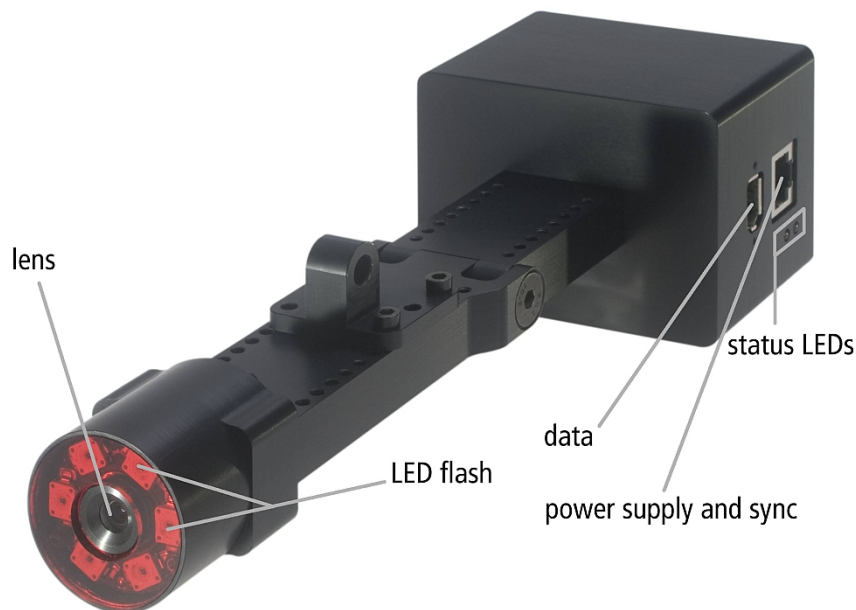

Figure 4.14: Camera *TRACKPACK/C* - Description of LEDs and interface connectors
**Description** The *TRACKPACK/C* camera is designed for tracking in multi-sided projection environments (e.g. CAVE®, I-Space). In such an environment it is necessary to drill holes into the projections' corners. The *TRACKPACK/C* camera has been designed to easily fit into such holes by separating the lens from the electronics part (see figure 4.14 on page 37). With its 3.5 mm lens a large field of view (FoV) is covered. Refer to A.1 on page 125 for the respective FoV.